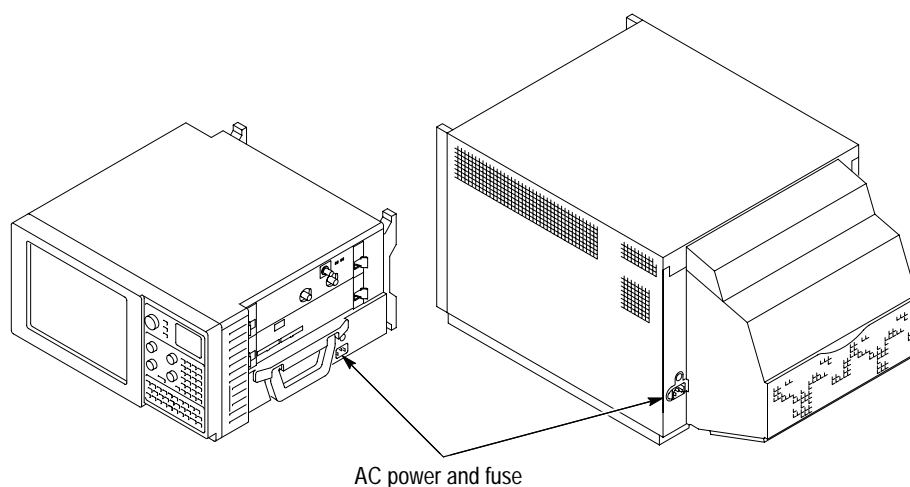

Figure 6: Line fuse and power cord connector locations
1. Check that the line fuse is correct for your application. See Table 3 and Figure 6.